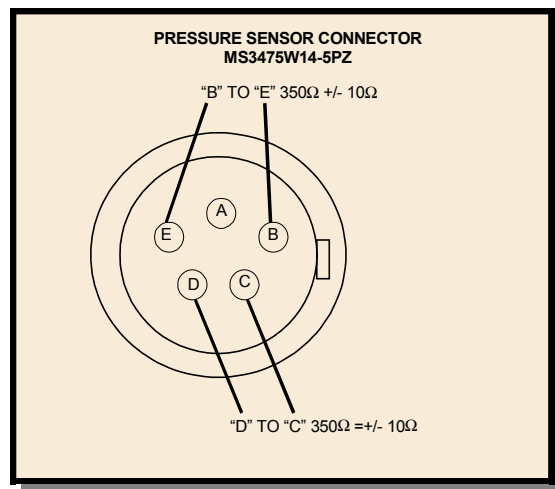

FIGURE 4.17 PRESSURE CONNECTOR
2. With the Digital Multimeter (DMM) set to the Ohms range, measure the resistance between pins "C" and "D" of connector MS3475W14-5PZ (see Figure 4.17). *The resistance should be $350\Omega \pm 1\Omega$.*